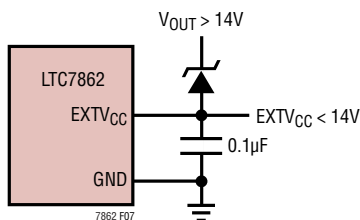

Figure 7. Using a Zener Diode Between  $V_{OUT}$  and  $EXTV_{CC}$
4.  $EXTV_{CC}$  connected to the regulator output through an external zener diode. If the output voltage is greater than 14V, a zener diode can be used to drop the necessary voltage between  $V_{OUT}$  and  $EXTV_{CC}$  such that  $EXTV_{CC}$  remains below 14V (Figure 7). In this configuration, a bypass capacitor on  $EXTV_{CC}$  of at least 0.1 $\mu$ F is recommended. An optional resistor between  $EXTV_{CC}$  and GND can be inserted to ensure adequate bias current through the Zener diode.